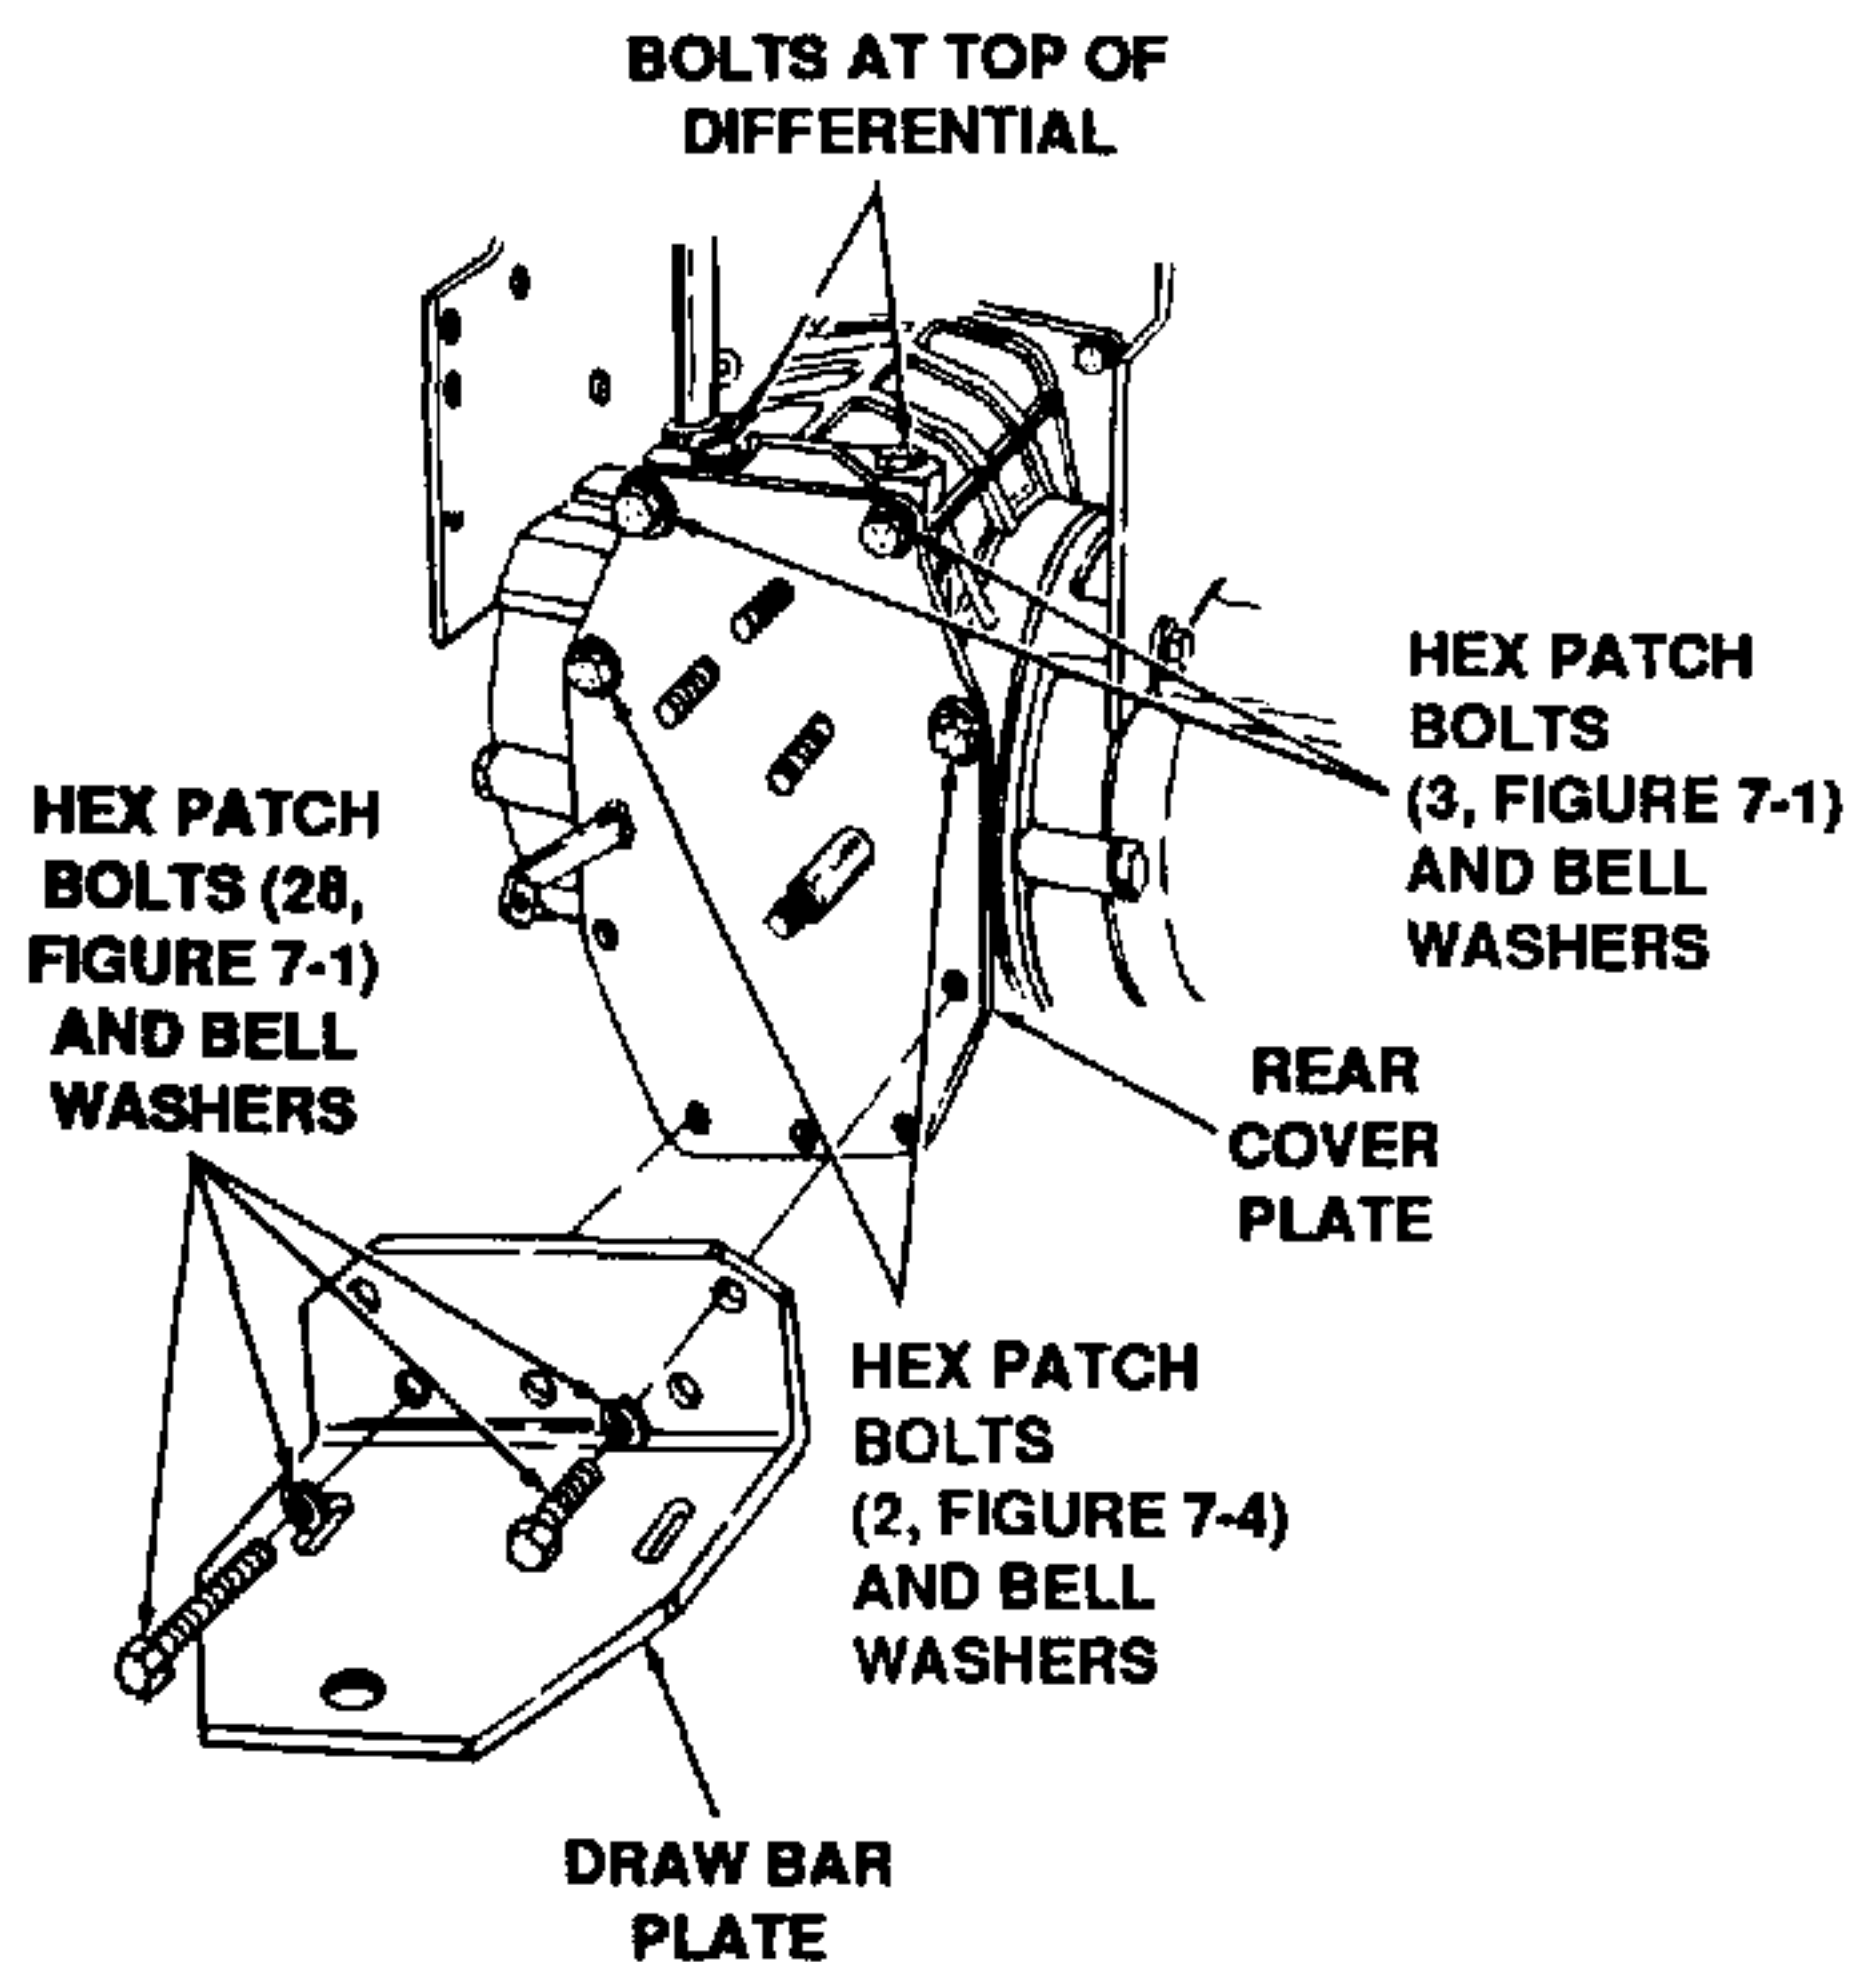

Figure 7-8. Installing Rear Cover Plate Assembly.
1. Install new rear cover plate assembly (8, Figure 7-3) on differential. Refer to Figure 7-8.
- d. Use 1-inch long hex bolts (2) in the next two cover plate holes.
- e. Position draw bar plate (8, Figure 7-2) on rear cover plate as shown in Figure 7-8, and secure with five 1-1/4-inch long bolts (28, Figure 7-1).
- a. Remove two bolts from top of differential. Refer to Figure 7-8.